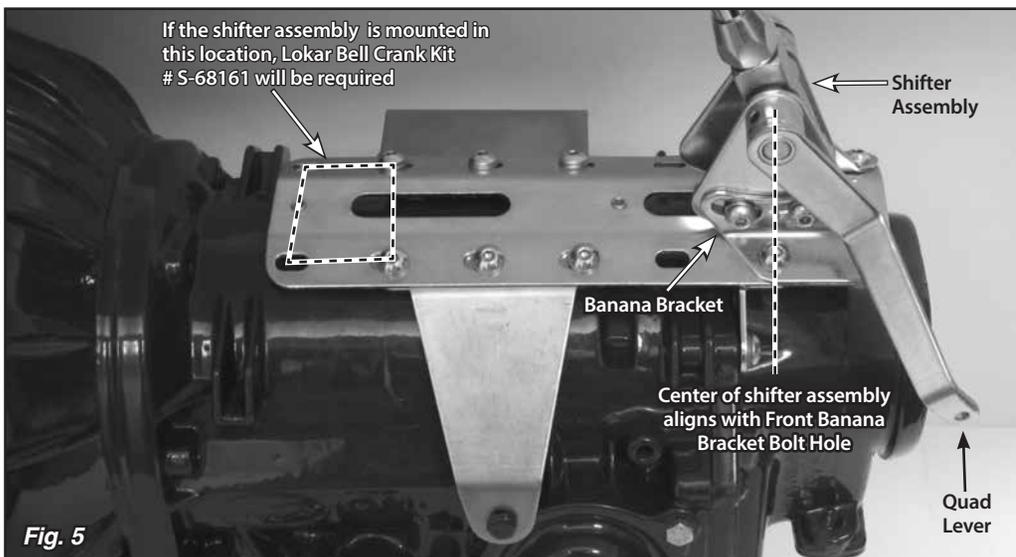

Fig. 5
Step 8: (Continued) Transfer that measurement to the transmission (or to the engine/transmission assembly if the engine is not installed in the vehicle). Mark that location on the main plate. The holes in the main plate that are closest to your mark are where the FRONT banana bracket bolts will need to be installed. **Fig. 5**
NOTE: If mounting the shifter assembly all the way forward, using the four bolt holes at the very front of the main plate, a bell crank kit (Lokar Part No. S-68161, sold separately) will be required. **Fig. 5**